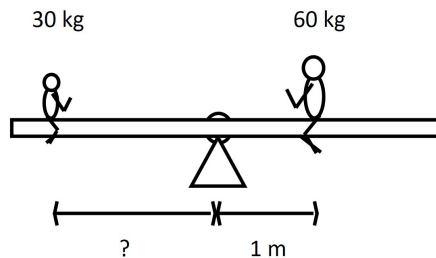

Figure 1: Diagram for warm up problem 1.
1. A 60 kilogram parent sits on a seesaw, 1 meter to the right of the pivot (as pictured in figure 1). How far to the left should a 30 kilogram child sit in order to balance the seesaw? If you haven't seen this type of problem before, try to answer it intuitively. Perhaps you can give a range of possible values?